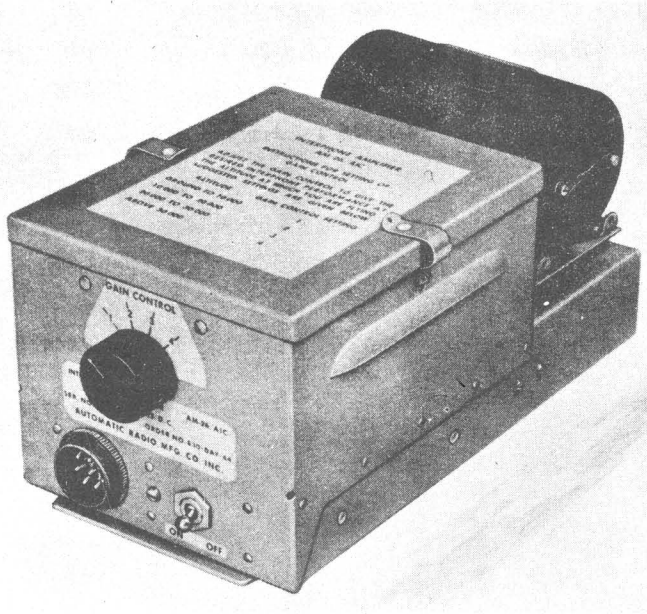

Figure 1-2. Interphone Amplifier AM-26/AIC—Exterior View
(1) Microphone T-30-P, T-30-Q, T-30-S, T-30-U, T-30-V or T-30-W.
(2) Microphone T-17, T-17B, T-17D, or T-17-E.
a. INTERPHONE AMPLIFIER AM-26/AIC.—Interphone Amplifier AM-26/AIC is an audio amplifier contained in an aluminum chassis and housing. (See fig. 1-2.) A "GAIN CONTROL" switch, an "OFF-ON" switch, and an 8-circuit receptacle (for making connections to the amplifier) are mounted on the front of the amplifier. Dynamotor DM-32-A is mounted on the chassis to the rear of the amplifier housing.